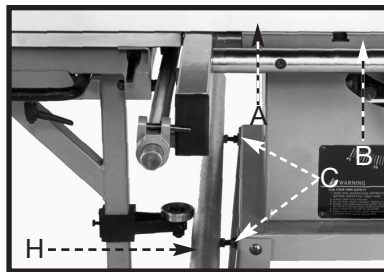

Fig. 54
2. Confirm that the gap between the bottom of the fence and the table at points (A) and (B) Fig. 54 is equal.
4. Make any adjustments with the two nuts (C) Fig. 54. The other nut is located inside the stand or cabinet on the old style and contractor's saw II. (For the other machines, both nuts are located on the bracket.) Adjusting the nuts (C) will move the lower rail (H) closer to or farther away from other side of the bracket or the stand/cabinet. Do not adjust the nut next to the guide rail (H). Adjust the nuts until the gap between the bottom of the fence and the table is the same at points (A) and (B) Fig. 54.